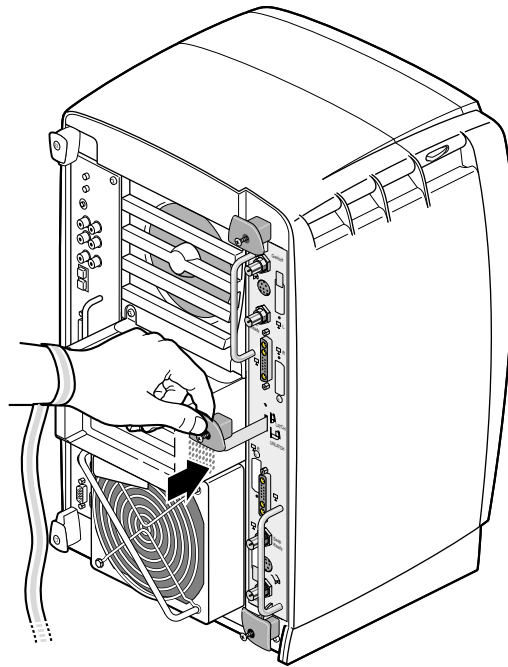

Figure 1-13 Latching the Dual Head XIO Module
4. Once the Dual Head XIO Module is fully inserted, grasp the center plastic knob, as shown in Figure 1-13, and push it into place against the I/O panel.